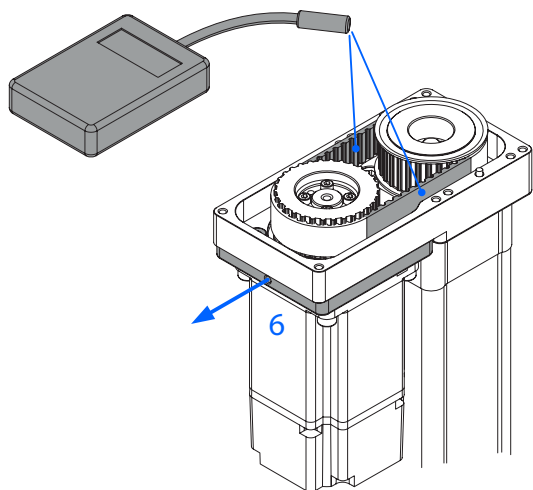

Figure 27: Belt pretensioning procedure.
Pretension the belt with the belt pretensioning frequency. The belt pretensioning frequency must be adjusted using the suitable frequency measuring device and sufficiently applied pretensioning load on the tensioning plate **6** (see Table 5 and Figure 27).
**STEP 8:** After the belt pretensioning procedure tighten the screws of the tensioning plate **9**. Check the belt frequency at 0°, 90°, 180° and 270° angles of rotation of the PNCE belt pulley **3** at both sides of the MSD housing (Figure 27). If the maximum measured belt frequency exceeds the specified one (see Table 5), the belt pretension must be adjusted (repeat STEP 7).